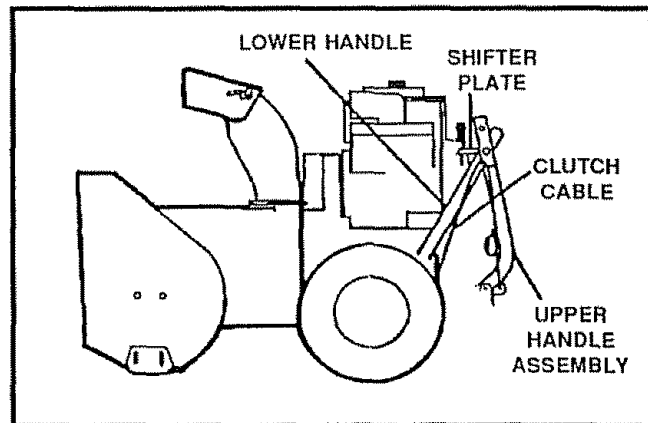
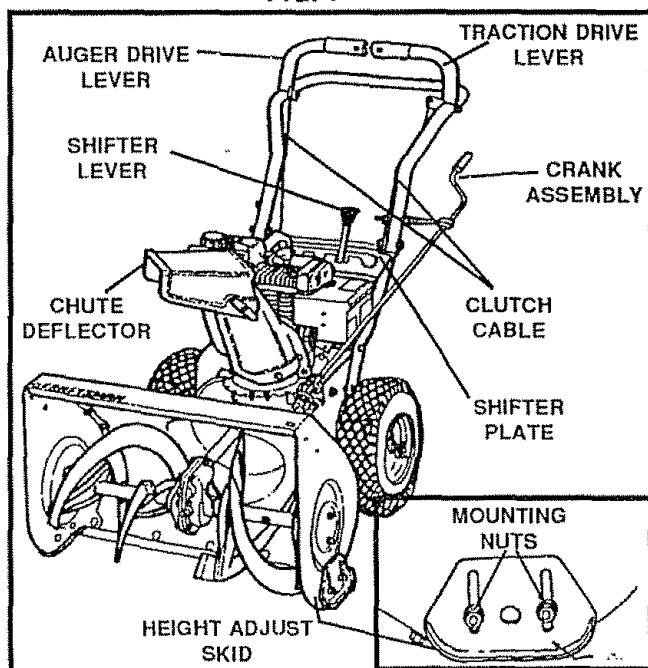

FIG. 1
FIG. 2
Figure 1 shows the snow thrower in the shipping position. Figure 2 shows the snow thrower completely assembled. Reference to the right and left hand side of the snow thrower is from the operator's position at the handle.
TO REMOVE SNOW THROWER FROM CARTON (See Fig. 1)
- Your snow thrower is equipped with height adjust skids (See Fig. 2) on the outside of the auger housing. To adjust the skid height for different conditions, see To Adjust Skid Height paragraph on page 17.